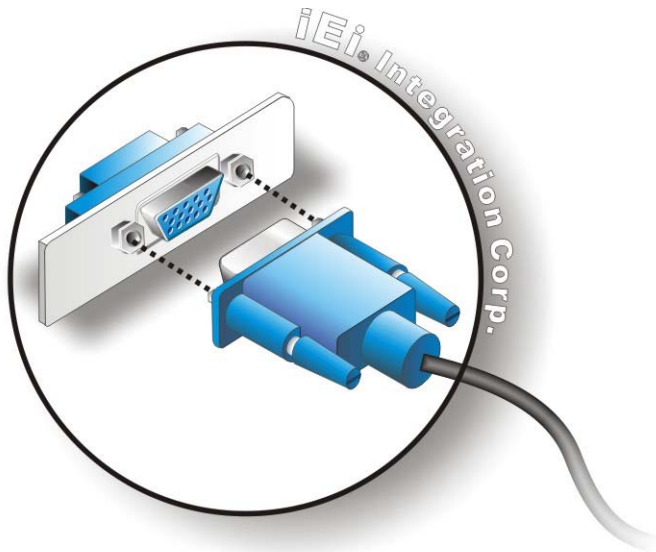

Figure 4-19: VGA Connector
- Step 3:** **Insert the VGA connector** Once the connectors are properly aligned with the insert the male connector from the VGA screen into the female connector on the IMB-Q670. See **Figure 4-19**.